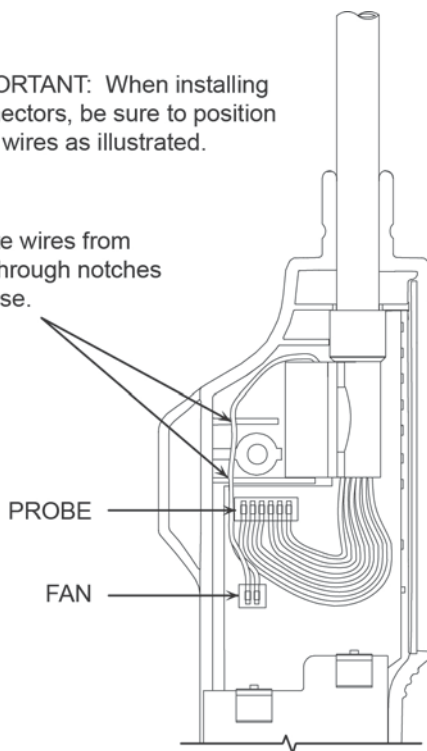

Figure 8. Connector Locations on Printed Circuit Board
7. Plug both the probe and fan connectors onto their respective header holes on the printed circuit board as shown in Figure 8.
8. Position the probe assembly between the two case halves, routing the fan wires through the notches in the case as shown in Figure 8. Then reassemble the case; push on the front retaining collar; screw on the probe tip; and reinstall the batteries.
Instrument does not turn on.	<ul style="list-style-type: none"> a. Batteries are dead or installed backward. Install four fresh 'AA' alkaline batteries per Section Battery Installation. b. Possible faulty refrigerant sensor. <ul style="list-style-type: none"> -Remove refrigerant sensor and turn on detector. If detector now turns on, and after warm-up shows a bad sensor (see sensor failure indication below), replace sensor per Section Sensor Replacement. c. Loose printed circuit board connector. Disassemble detector and ensure that all connectors are securely attached to the printed circuit board. See Figure 8.
Erratic gas indication.	<ul style="list-style-type: none">a. Sensor faulty. Replace sensor per Section Sensor Replacement.b. Loose sensor. Unscrew probe tip and ensure that sensor is being held firmly in socket.c. Loose printed circuit board connector. Disassemble detector and ensure that all connectors are securely attached to the printed circuit board. See Figure 8.